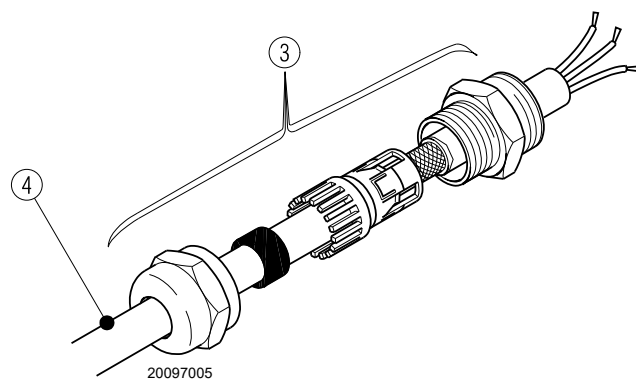

Fig. 32
- Shield the cable 4) running from the VSD (inverter), as shown in Fig. 32 and using the coupling 3);